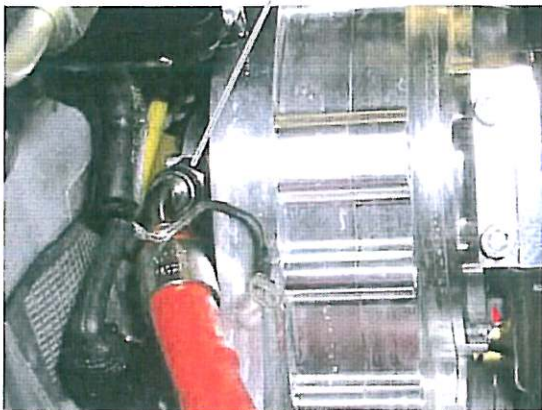

Figure 4
5. *Attach the the union nut of hose (P/N 02-6120-16026R3, item 14 in the part list of the regular Service Bulletin) to the adapter at the rotary feed-through and tighten up the union nut to the specified tightening torque while holding the adapter steady. See Figure 4.*